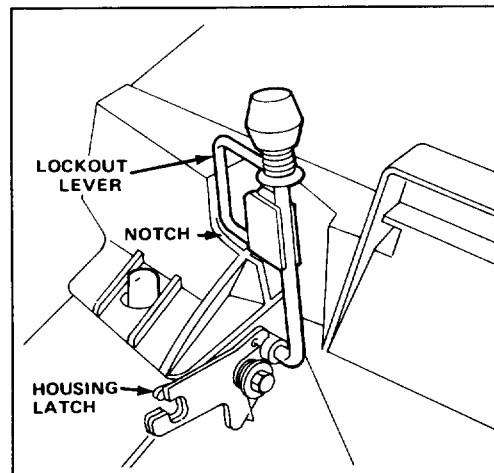

Figure 5
3. Squeeze lockout lever until it clears the housing latch (Fig. 5). Then move handle rearward until lockout lever locks in notch at rear of bag door (Fig. 5). The chute door in mower housing is now open and mower is ready to bag grass clippings.